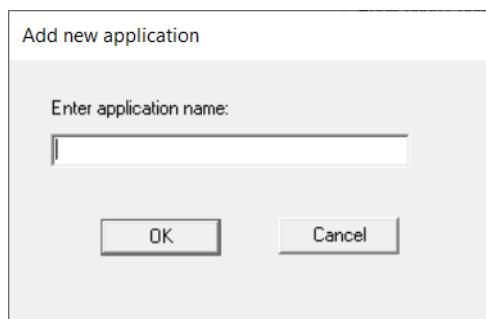

Figure 12: Adding new application
1. In the **Control MicroSCADA Applications** dialog, click **Add** to open the **Add new application** dialog, see Figure 12.